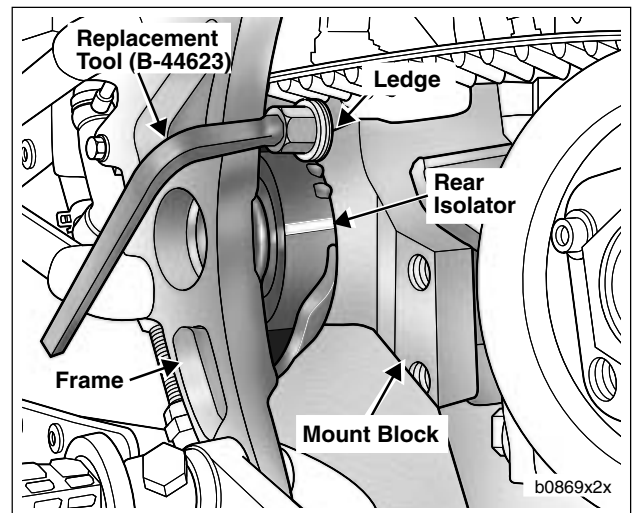

Figure 2-79. Rear Isolator Replacement Tool In Use
- See Figure 2-79. Working on the right side first, insert the REAR ISOLATOR REPLACEMENT TOOL (Part No. B-44623) between mount block and frame. NOTE: Ledge on tool should engage top of mount block.
- See Figure 2-79. On right side of motorcycle, insert rear isolator replacement tool between mount block and frame.